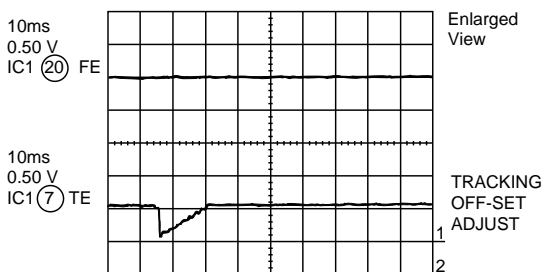

Figure 11-2
2. Tracking offset (Fig. 11-2)